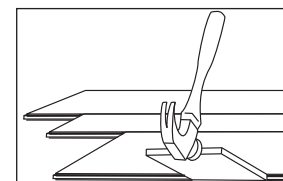

Figure 11
- It may be necessary to align the product with a cut-off piece of scrap as shown (Figure 11 - Keep scrap angle low to avoid edge damage).